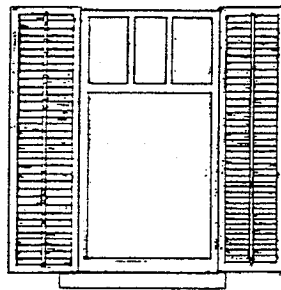

Figure 4a: Allowed
- Door and window shutters shall be sized to cover the entire window (Figures 4a and 4b).